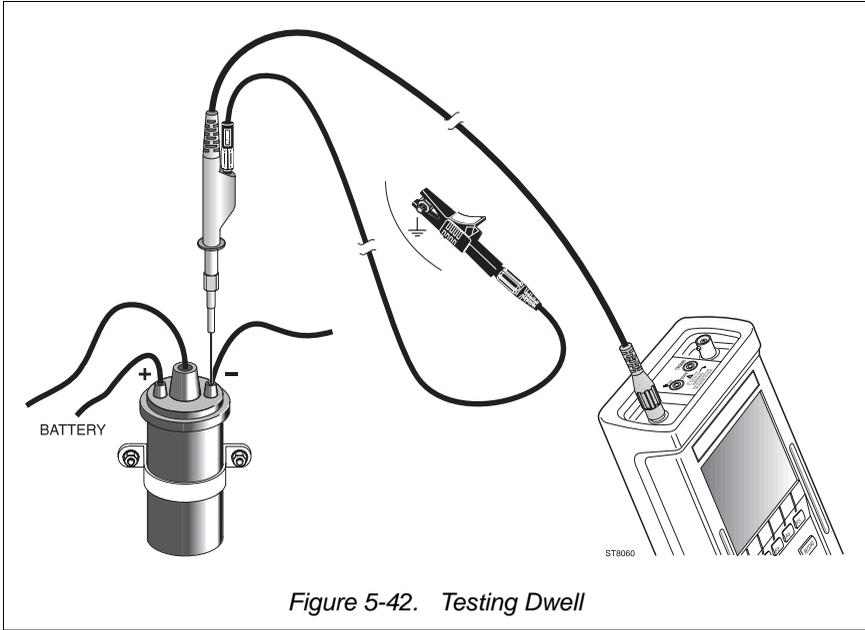

Figure 5-42. Testing Dwell
- ①
- ②     SELECT F5
- ③     SELECT F5
- ④ Connect the test leads as displayed by the test tool's Connection Help and shown in Figure 5-42.
- ⑤  OK F1 Starts the dwell test.